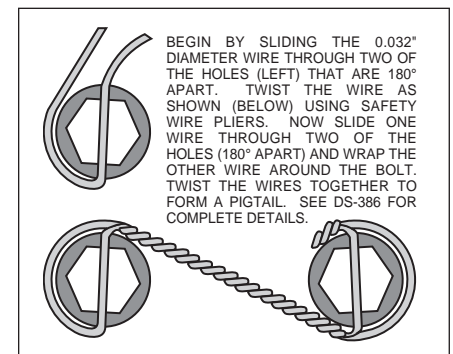

Figure 3. Safety Wire Diagram
- With the larger I.D. side of the rotor (6) facing away from the hat (7), bolt rotor (6) to the hat (7) through the backside of the rotor using washers (8) and bolts (9). Torque bolts (9) in an alternating sequence to 85 **in-lb**. Safety wire bolts (9) using standard 0.032 inch diameter stainless steel safety wire as shown in Figure 3. Please refer to Wilwood's data sheet DS-386 (available at www.wilwood.com/Pdf/DataSheets/ds386.pdf) for complete safety wire installation instructions. Slide the rotor/hat assembly onto the spindle. Check to be sure the hat seats squarely against the hub. Install a couple of lug nuts (finger tighten) to keep the rotor/hat assembly in place while continuing with the installation.
- Install spacer (14) and one washer (15) over each pre-installed stud (13) on the radial mount bracket (1). Slide the caliper (10) in place over the studs and rotor, then install the washer (12) and lock nut (11) to hold the caliper in place. The caliper bleed screws should be pointing up. Snug the lock nuts (11) and check that the rotor (6) is centered in the caliper (10). Add or subtract .029" shims (3) as necessary between the caliper mounting bracket (1) and the spindle to center the caliper (10).
- Remove the caliper center bridge pad retainer bolt, nut, and tube from the caliper. Slide the brake pads (16) into place. They should install easily without interference. Check that the outside radius of the brake pad is aligned with the outside diameter radius of the rotor face. Add or subtract shims (15) between the caliper (10) and mount bracket (1) to gain the proper alignment. Reinstall the center bridge pad retainer tube, bolt, and lock nut. The lock nut should be snug without play in the bolt or tube. Be cautious not to over tighten.
- Once all clearances have been checked, remove the wheel, caliper, hat, and rotor from the spindle and hub. Secure the caliper mounting bracket (1) to the spindle with bolt (2), washers (3), lock washer (4) and nut (5) as done previously using red *Loctite*® 271. Torque bolt (2) to 75 ft-lb. Reinstall the hat and rotor assembly and again using two lug nuts (finger tighten) to hold it in place. Lubricate caliper mounting studs and nuts with lightweight oil, reinstall the caliper, torque the caliper nuts (11) to 28 ft-lb.